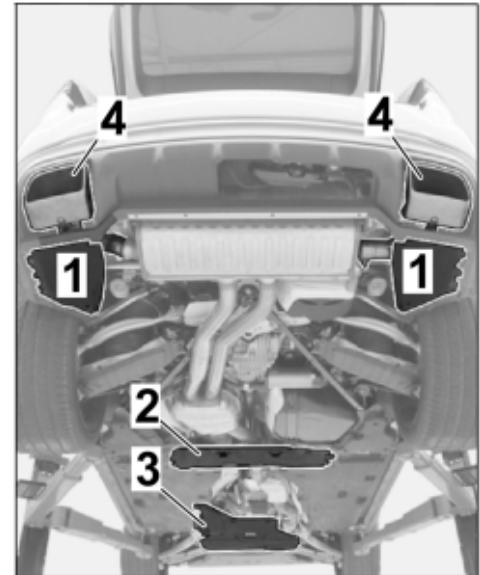

Figure 9
1.6.1 Remove the rear underbody cover and rear tunnel cover. ⇒ Figure 9 -1 and 2- ⇒ Workshop Manual '519419 Removing and installing rear underbody cover'
1.6.2 Remove the front underbody cover (rear section). ⇒ Figure 9 -3- ⇒ Workshop Manual '51921900 Removing and installing front underbody cover'
1.6.3 Remove the tailpipe (left/right). ⇒ Figure 9 -4- ⇒ Workshop Manual '263419 Removing and installing tailpipe - T9I'